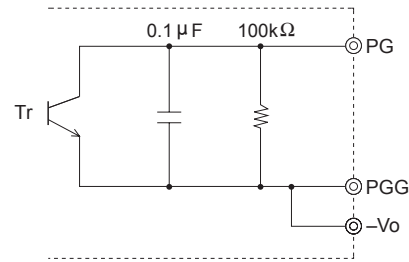

Fig.6.2 Internal circuit of PG
- Table 6.2, see Fig. 6.2 the internal structure circuit explaining the operation of the PG alarm.